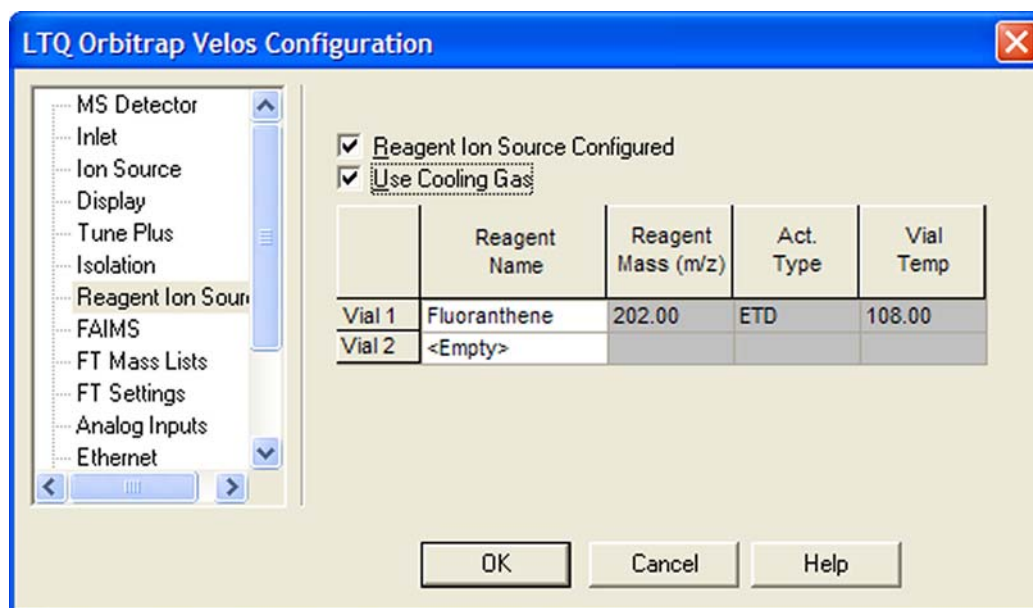

Figure 7-8. LTQ Orbitrap Series Configuration dialog box – Reagent Ion Source page
6. Select the Use Cooling Gas check box as shown in Figure 7-8.